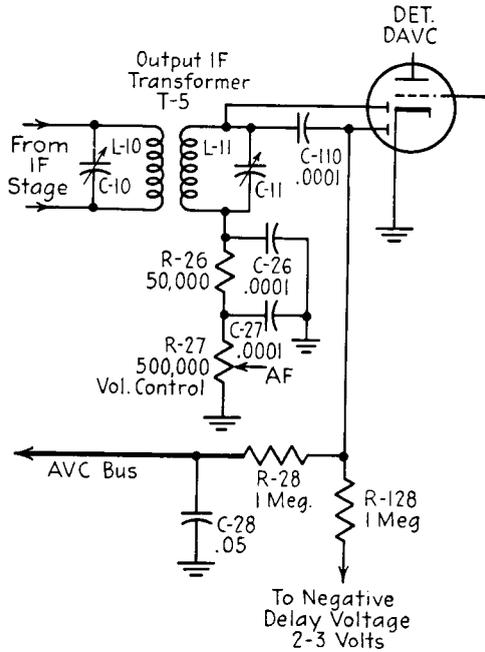

FIG. 12-13. Delayed AVC circuit.
**Delayed AVC.** The standard circuit of the detector and AVC stage furnishes a type of control known as "simple AVC." Some receivers use a modified circuit known as "delayed AVC," shown in Fig. 12-13.